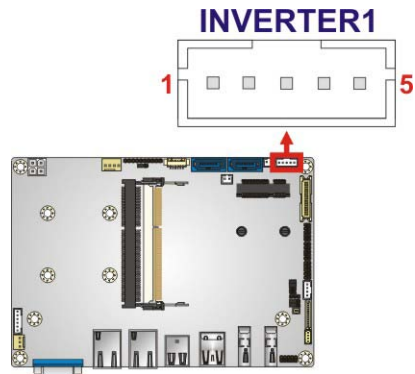

Figure 4-9: Backlight Inverter Connector Location
- CN Location: See **Figure 4-9**